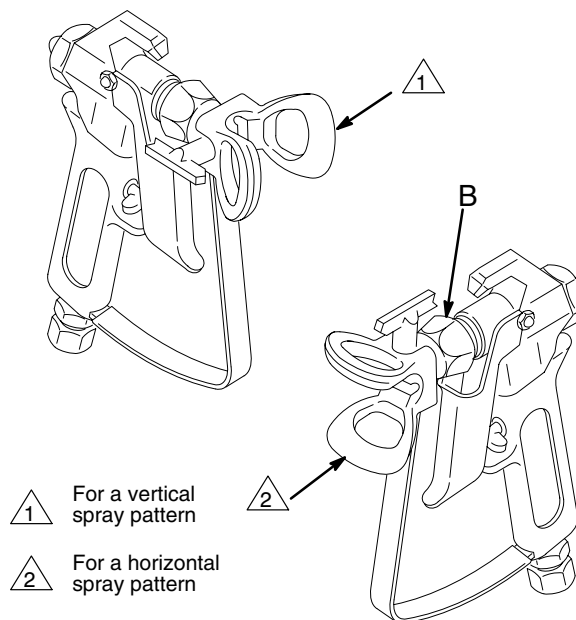

Fig. 8
- c. Test the spray pattern. To adjust the direction of the spray pattern, engage the gun safety latch and loosen the retaining nut (B). Position the tip guard horizontally for a horizontal pattern or vertically for a vertical pattern. Hold the tip guard in place while tightening the retaining nut. See Fig. 8.